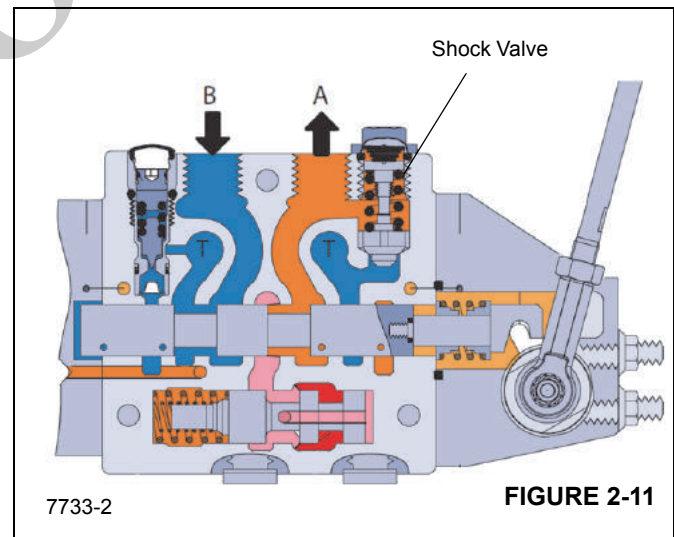
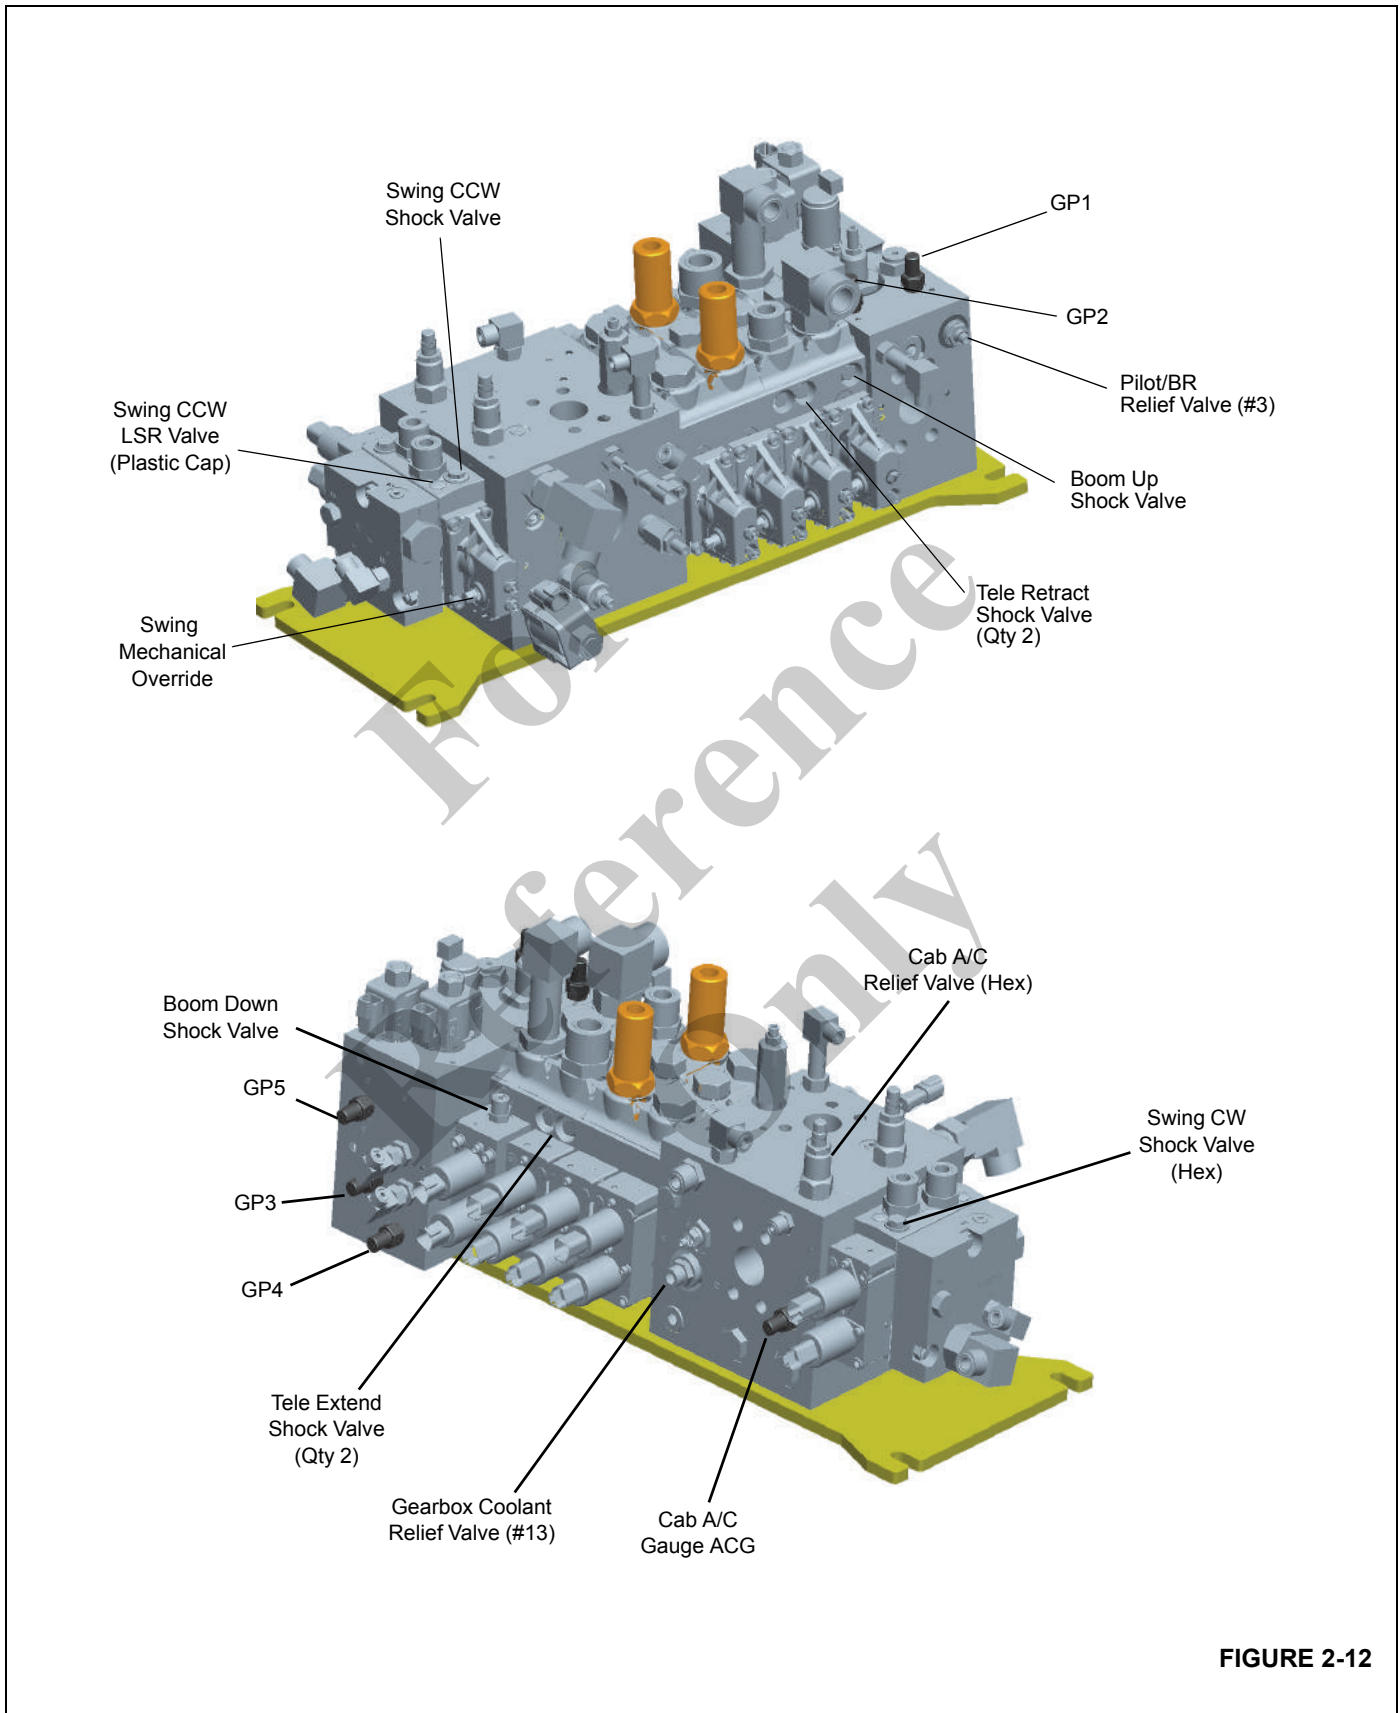

FIGURE 2-11
FIGURE 2-12
- b. For the Swing function, reference (Figure 2-11) of the generic valve section cutaway. There are shock valves on each side of the valve section located adjacent to each workport (vertical).
- Boom Up has a single shock valve in the valve section that has a fixed adjustment of 280 bar (4061 PSI) as shown in (Figure 2-12).
- Boom Down has a single shock valve in the valve section that has a fixed adjustment of 140 bar (2031 PSI) as shown in (Figure 2-12).
- The Telescope Extend function has dual shock valves in the valve section that each have a fixed adjustment of 175 bar (2538 PSI) as shown in (Figure 2-12).
- The Telescope Retract function has dual shock valves in the valve section that each have a fixed adjustment of 140 bar (2031 PSI) as shown in (Figure 2-12).
- Swing clockwise/counter clockwise each have a single shock valve in the valve section that has a fixed adjustment of 210 bar (3045 PSI) as shown in (Figure 2-12). This can not be changed, shimmed, etc. Reference comments in Section A about checking this setting on the physical shock valve assembly if suspect.
- The swing setting should be set by the load sense relief valve (LSRV) for each direction as it is adjustable up to the shock valve setting mentioned above. These LSRV's are located under the rounded black plastic plugs located on each side of the section adjacent to the shock valves as shown in (Figure 2-11) and (Figure 2-12).
With the swing brake locked, actuate the valve using a 9mm box-end wrench on the spool's cam (Figure 2-12). Pulling up on the wrench is swing counter clockwise, pushing down is swing CW.
1. The Cab A/C circuit has a single relief valve in the directional control valve mid-inlet manifold with a setting of 100 bar (1450 PSI) as shown in (Figure 2-12).
- a. Install a 345 bar (5000 psi) minimum gauge in the A/C gauge port on the control valve mid-inlet manifold (Figure 2-12).
1. The Pilot Supply circuit has a single relief valve in the directional control valve inlet manifold with a setting of 21 bar (300 PSI) as shown in (Figure 2-12).
2. This can be adjusted by loosening the 11/16 in. locknut and using a 3/16 in. allen wrench to adjust the setting. Be sure to retighten the 11/16 in. locknut to 5.4 Nm (4) lb-ft when setting is correct.
- a. Install a 69 bar (1000 psi) minimum gauge in the GP5 gauge port on the control valve inlet manifold (Figure 2-12).
1. The Swing Brake Release circuit has a single relief valve in the directional control valve inlet manifold with a setting of 21 bar (300 PSI) as shown in (Figure 2-12).
- a. Install a 69 bar (1000 psi) minimum gauge in the GP4 gauge port on the control valve inlet manifold (Figure 2-12).
1. The Swing Brake Apply circuit is controlled through a proportional solenoid valve shown in (Figure 2-12) and can not be adjusted.
- a. Install a 69 bar (1000 psi) minimum gauge in the GP3 gauge port on the control valve inlet manifold. See (Figure 2-12).
setting of 60 PSI (4 bar) as shown in (Figure 2-12) (Gearbox Coolant Relief Valve #13).
- a. Install a 345 bar (5000 psi) minimum gauge in the GP2 gauge port on the directional control valve (Figure 2-12).